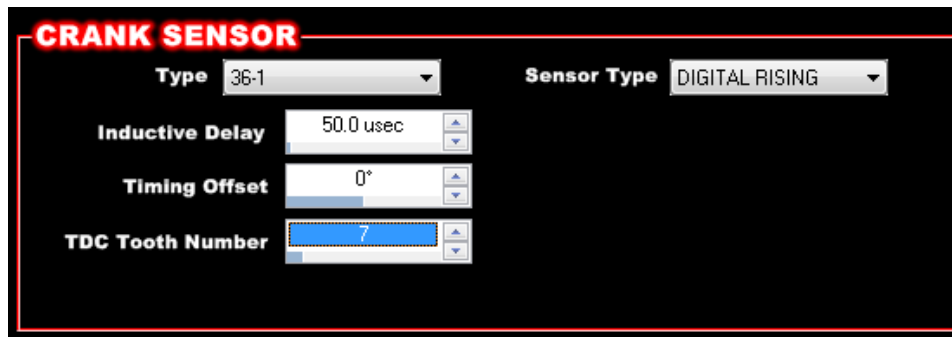

Figure 10: Initial software settings.
1. If using Holley EFI, set initial ignition software parameters, as seen in **Figure 10** below.